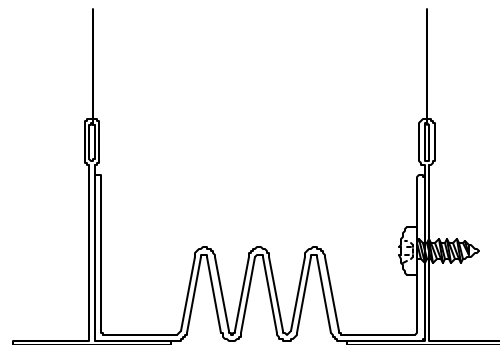

Figure 3
STEP 3. Select the screws provided by the factory and attach one side of the seal to the tee on one side of the joint (Figure 3). Typical anchor spacing is 20" o.c. with anchors placed a nominal 3" from each end of the seal.